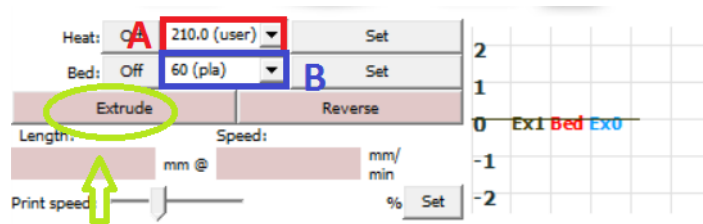

Figure 3: Temperature settings
From Pronterface windows show in Fig.3, once you have switched on and plugged in the printer, write in the textbox (A) in figure the value 210 (if you are using the PLA filament equipped with the printer) and click on **Set**, same thing for the textbox (B) writing 60. This procedure will start the heating process of the bed and the extruder.